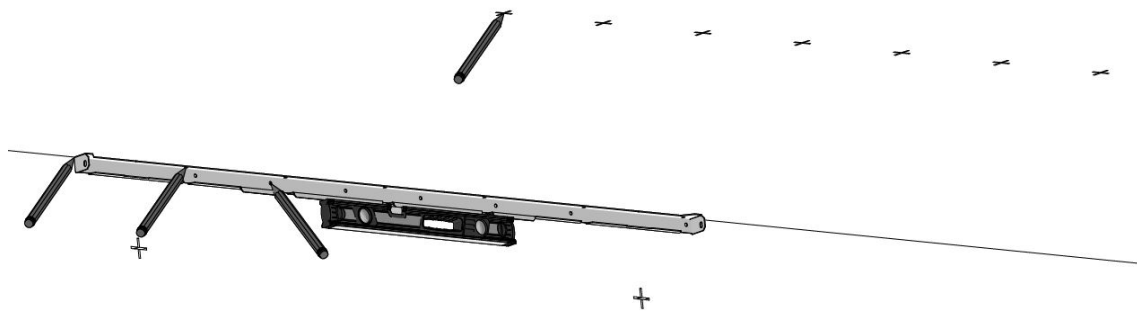

Figure 13: Mark drill holes for the rear and front brackets
1. Hold the rear bracket against the wall and ceiling. Make sure the bracket is level. See Figure 13.